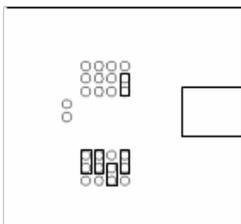
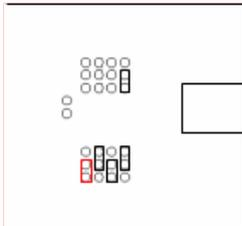

Figure 5: Pull up GPIO 3
Figure 7: Pull down GPIO 3
- First make sure the powerline adapter and PLC Stamp EVB are connected to the same circuit and all jumpers are in default position (see Figure 5)
- Set the jumper for GPIO 3 to index 4 position (see Figure 7) for just 6 seconds and then quickly back (see Figure 5)
- Set the jumper for GPIO 3 to index 4 position (see Figure 7) for just one second and then quickly back (see Figure 5) in order to trigger the pairing on the PLC Stamp micro EVB